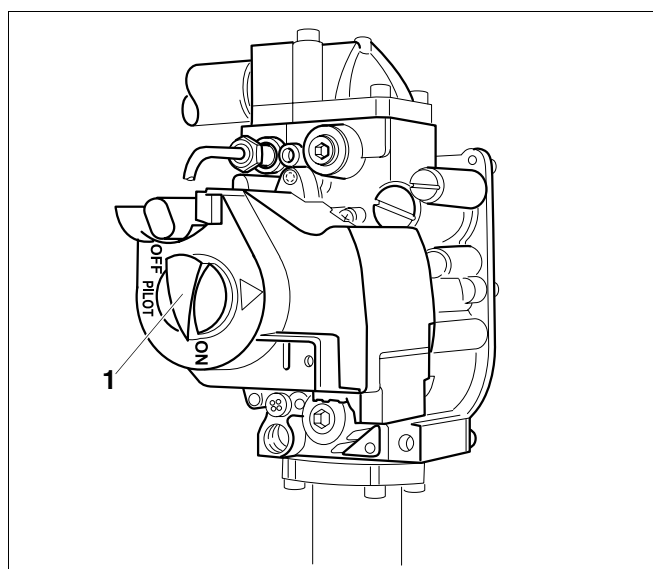

Fig. 38 G124X SP gas valve
57. Turn gas valve ON/OFF switch (→ Fig. 38) counterclockwise to PILOT position.
58. Wait three (3) minutes and turn gas valve ON/OFF switch (→ Fig. 38) counterclockwise to ON position. Gas must not flow into the main burner.
60. If gas flows turn gas valve ON/OFF switch (→ Fig. 38) to OFF position immediately and close the gas shut-off.